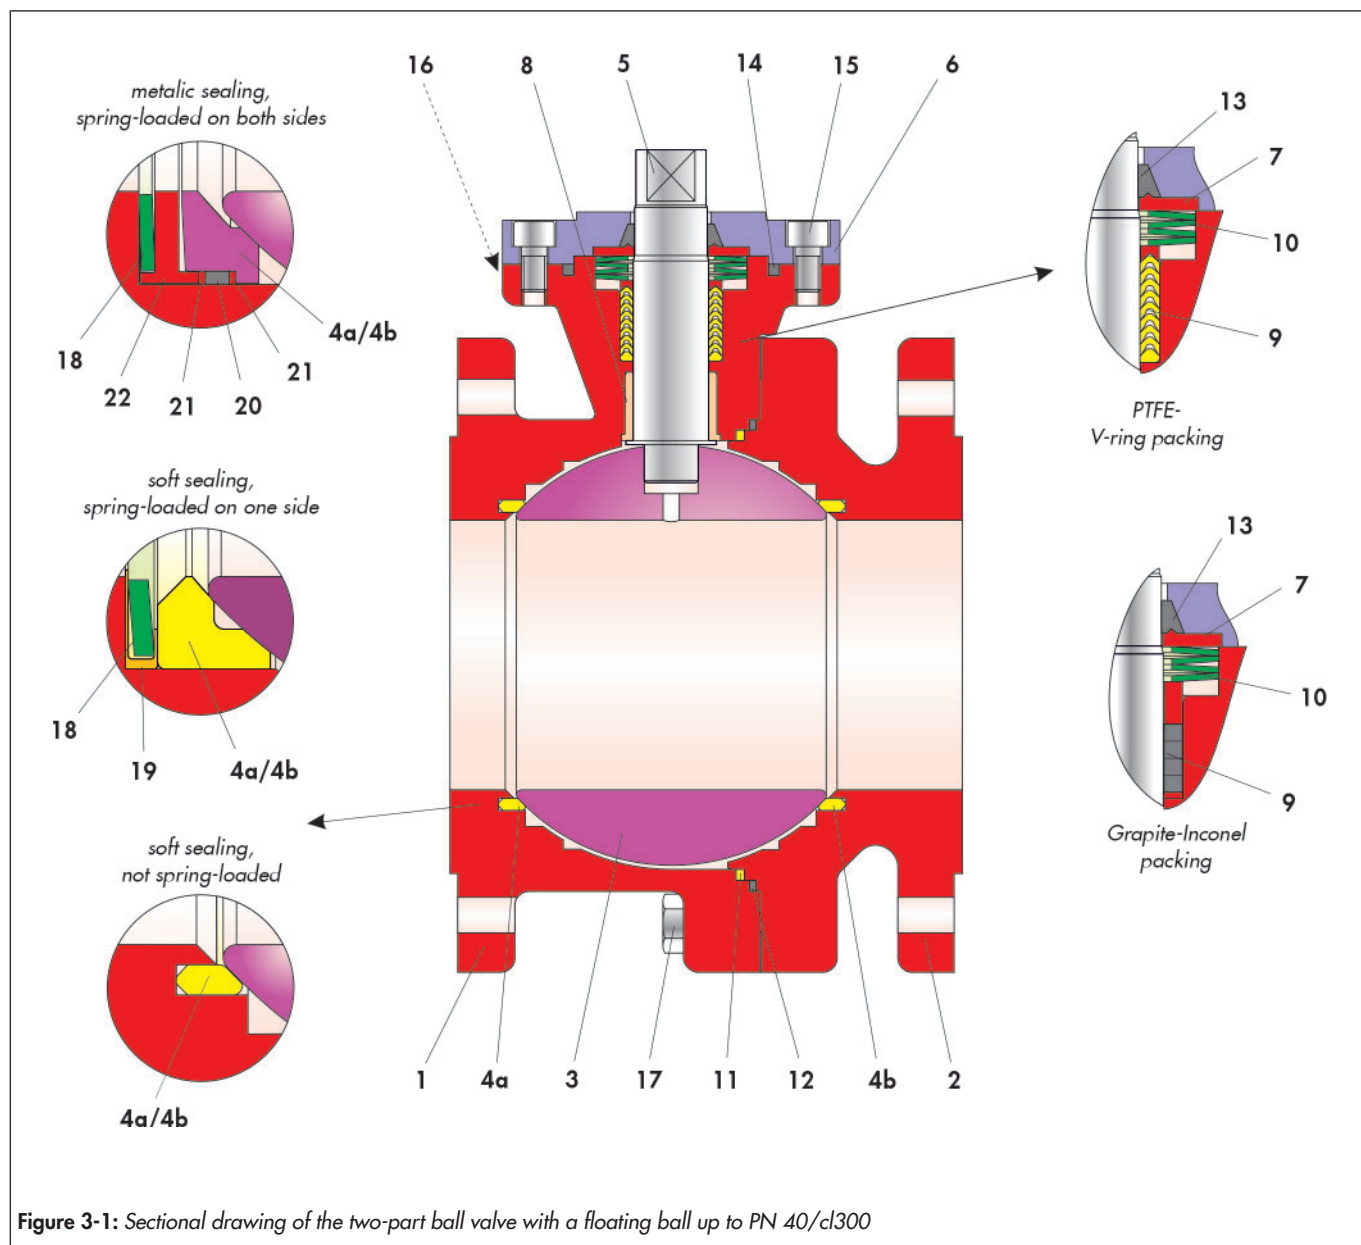

Figure 3-1: Sectional drawing of the two-part ball valve with a floating ball up to PN 40/cl300
The position and arrangement of the individual parts shown in Figure 3-1 must be observed during assembly.
- ⇒ Push the V-ring packing or graphite packing (9) with a slight rotation movement over the assembled switching shaft (5) and insert it into the packing space of the base body (1). Arrangement of the V-sleeves see Figure 3-1.
- ⇒ Place the set of spring washers (10) on the packing (9). Arrangement of the spring washers, see Figure 3-1.
- ⇒ Push the bushing (7) over the switching shaft (5) such that it lies on the spring washers (10).
- ⇒ Push the carbon-graphite ring (13) carefully over the switching shaft (5) up to the bushing (7).
- ⇒ Insert the carbon-graphite ring (14) into the groove of the stuffing box flange (6).
- ⇒ Place the stuffing box flange (6) over the switching shaft (5) onto the base body (1).
- ⇒ Lightly grease the screws (15).
- ⇒ Evenly adjust the stuffing box flange (6) with the screws (15) and tighten in a criss-cross pattern.